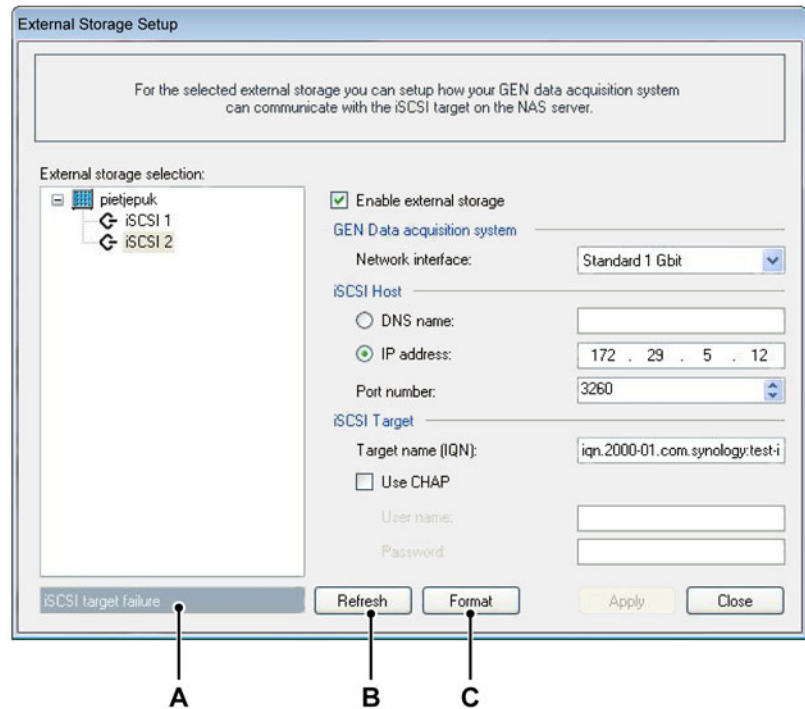

Figure 11.8: External Storage Setup - Refresh/Format option
(See Figure 11.8 - C)
11.3.10 Status messages/ troubleshooting (See Figure 11.8 - A)